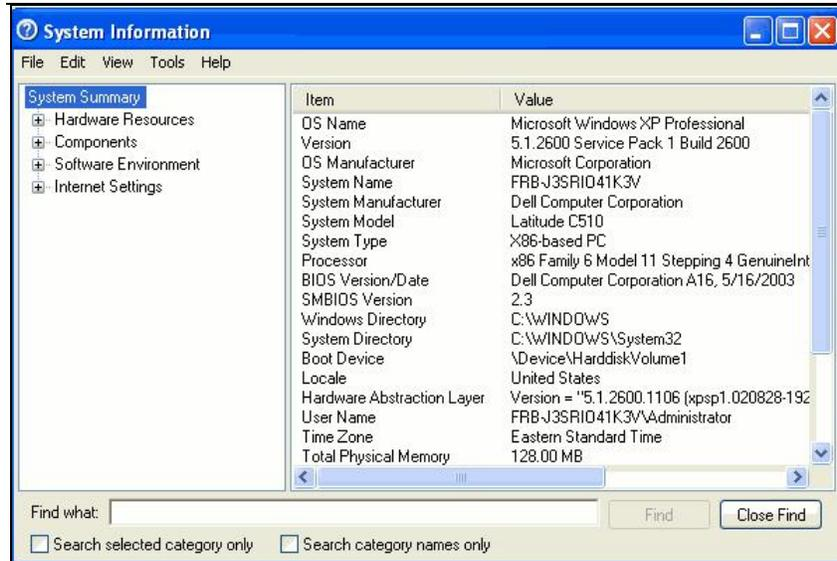

Figure 3.38
4. The Help window can also be used to obtain information pertaining to your computer. Click on the 'System Info' button to display information regarding your computer. (Figure 3.38)